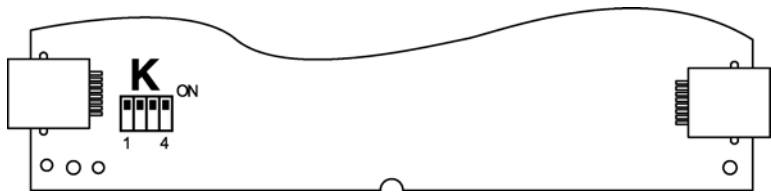

Fig. 2.247 DIP switches K
Grounding the V interface is configured by means of DIP switches (K) (Fig. 2.247 and Tab. 2.131)